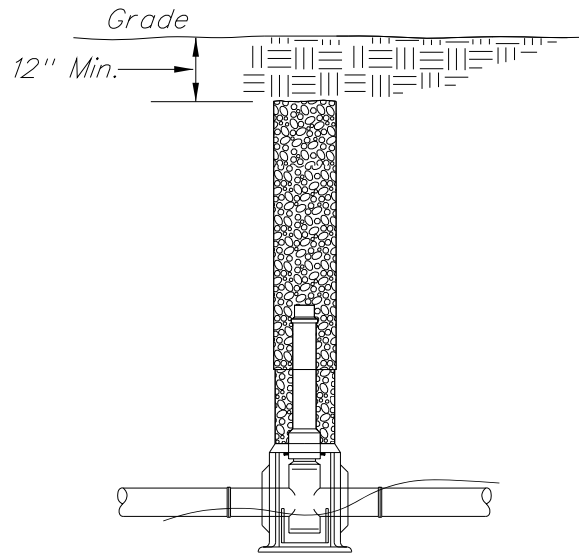

Fig. 2
- The remaining box shall be filled with sand or flowable fill. See Fig. 2.